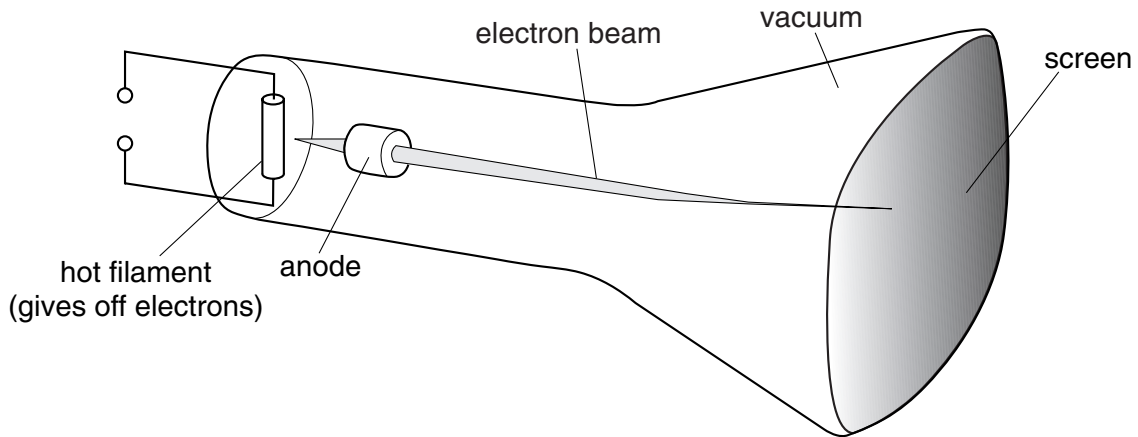

Fig. 11.1
- 11 A television picture is produced by firing electrons at a screen. Fig. 11.1 shows how this is done.
Using the correct symbol, draw on Fig. 11.1 where a voltmeter could be placed to measure the voltage across the filament. [2]
Question 11 Fig. 11.1. © D Sang. *Physics*. Cambridge University Press.